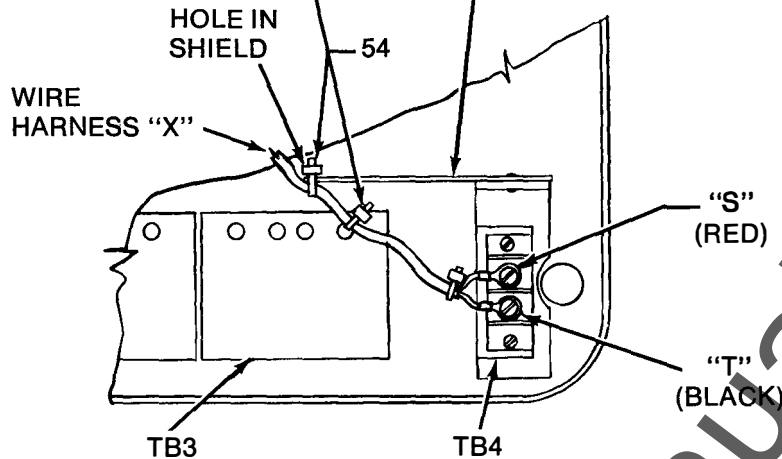

Fig. 20 — Connection of Harness "X" from flux shift trip device to terminal board TB4 on back frame.
12. Connect wire harness "X" (attached to flux shift trip device) to terminal block TB4 per Fig. 20. Exercise care in routing to prevent leads being damaged by moving breaker components such as contact assemblies.